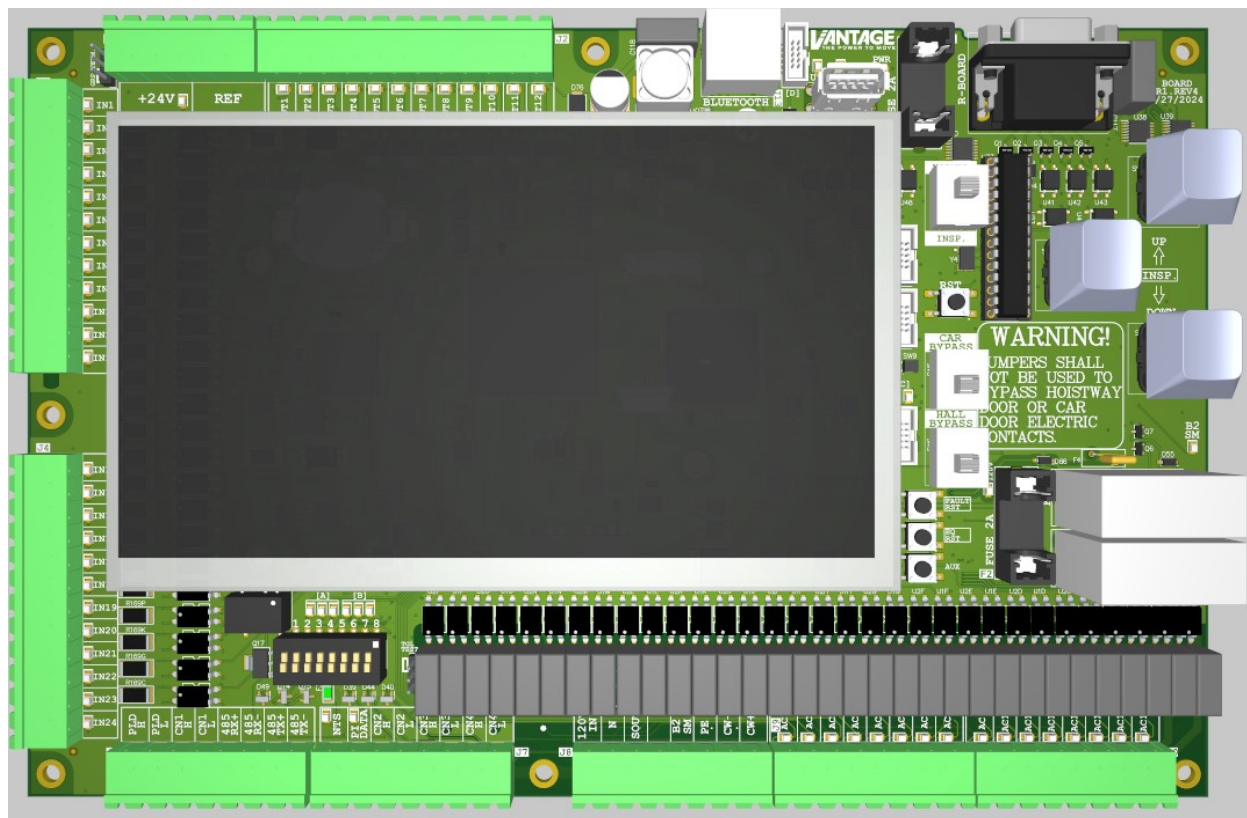
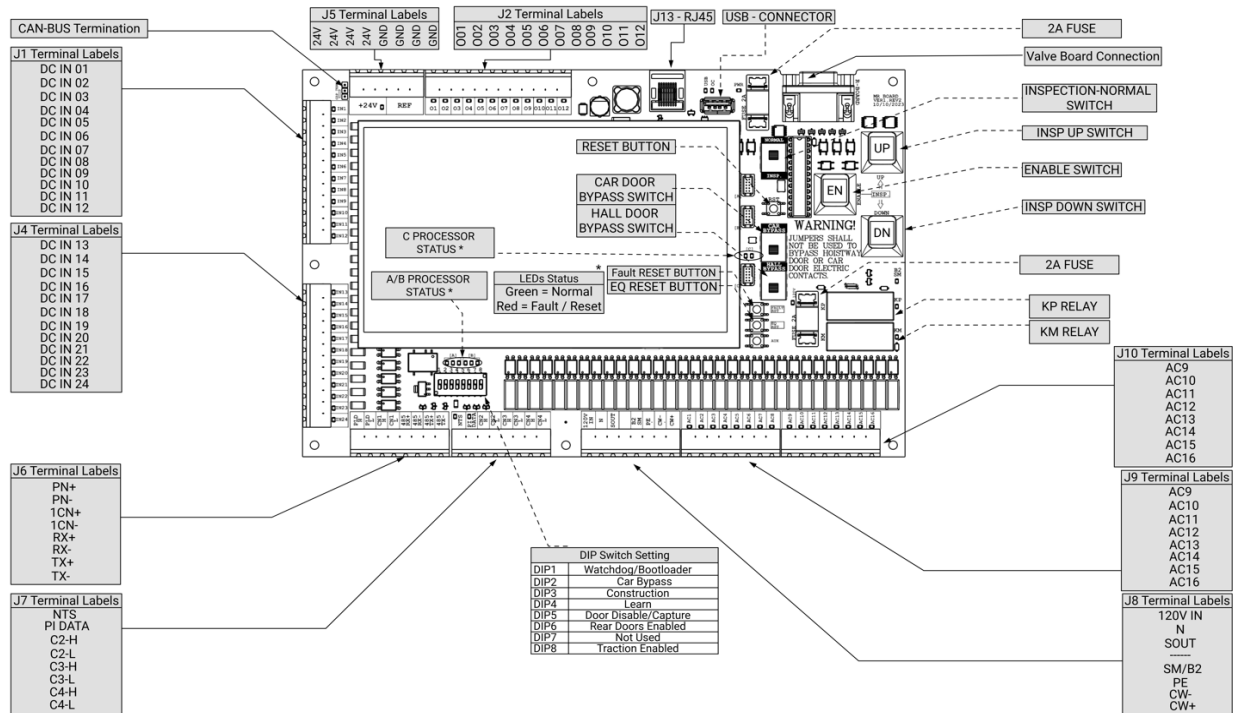

Figure 4: Machine Room (MR) Board - NEXS-0001
Figure 5: Machine Room (MR) Board Callouts
1.5.1 MACHINE ROOM (MR) BOARD – NEXS-0001
The Machine Room (MR) Board (shown in Figure 4 and Figure 5) is installed in the Machine Room Controller Cabinet and is the central control board for the Nexus™ controller, executing main system programs.